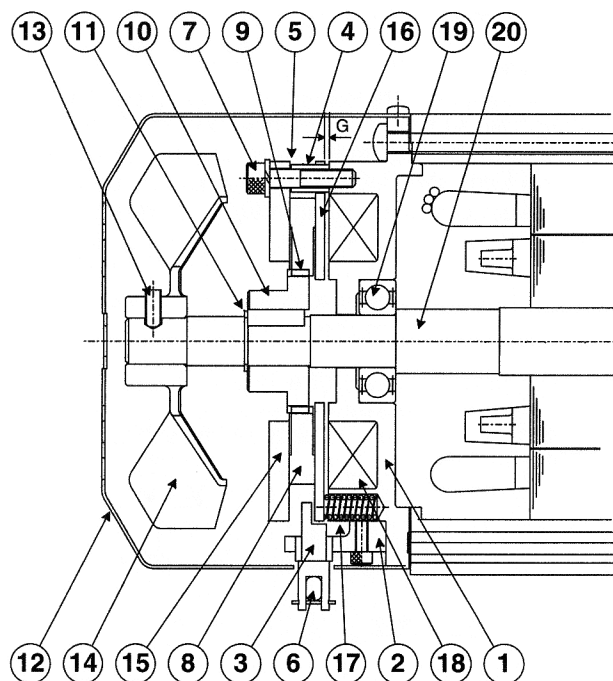

Fig. C-4 FB-1B, -2B, -3B Models
Fig. C-4 illustrates the construction of the brake. The restraining bolt (7) fastens the brake shoe (15), gap adjusting sleeves (5) and spacer (4) onto the stationary core (1). The armature plate (16) is kept from rotation by the restraining bolt (7), but moves axially by electromagnetic attraction and the tension of the pressure spring (17). The brake lining (8) is fitted to the hub (10), which is secured to the motor shaft with a key. The solenoid coil (18) is energized via a rectifier provided within the terminal box.
The brake lining will wear after the unit has been used for a long period of time. It is necessary to check the brake for gap G from time to time (Fig. C-4). Should gap G become too large, the solenoid coil may fail to pull in the armature plate and hence cannot release the brake, resulting in the unit remaining in a continuously braked condition.